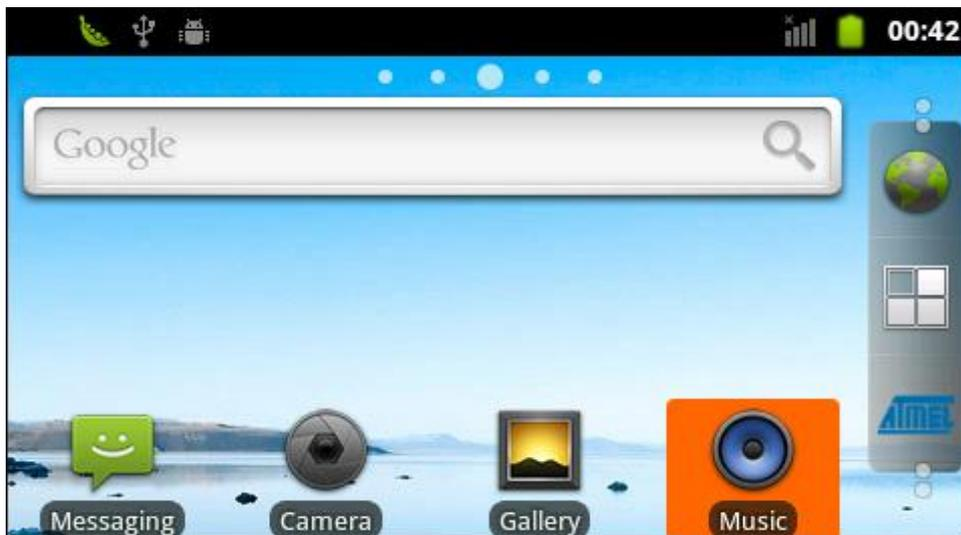

Figure 5-22
(1) Select "Music" icon will pop up music player interface. Refer to figure 5-22: